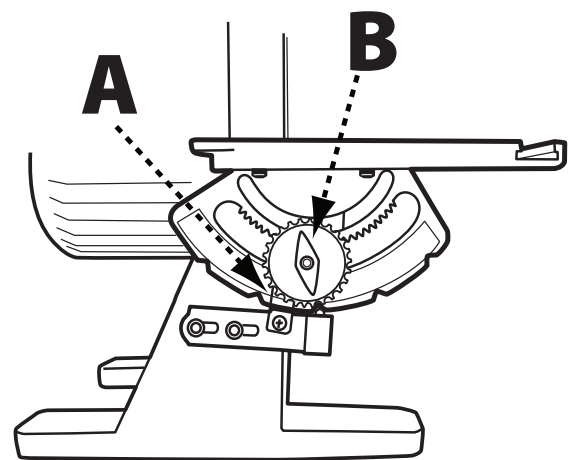

FIGURE 13
- Referring to Figure 13, ensure table tilt indicator (A) is set to 0°.
- Loosen the table locking wing nut (B).